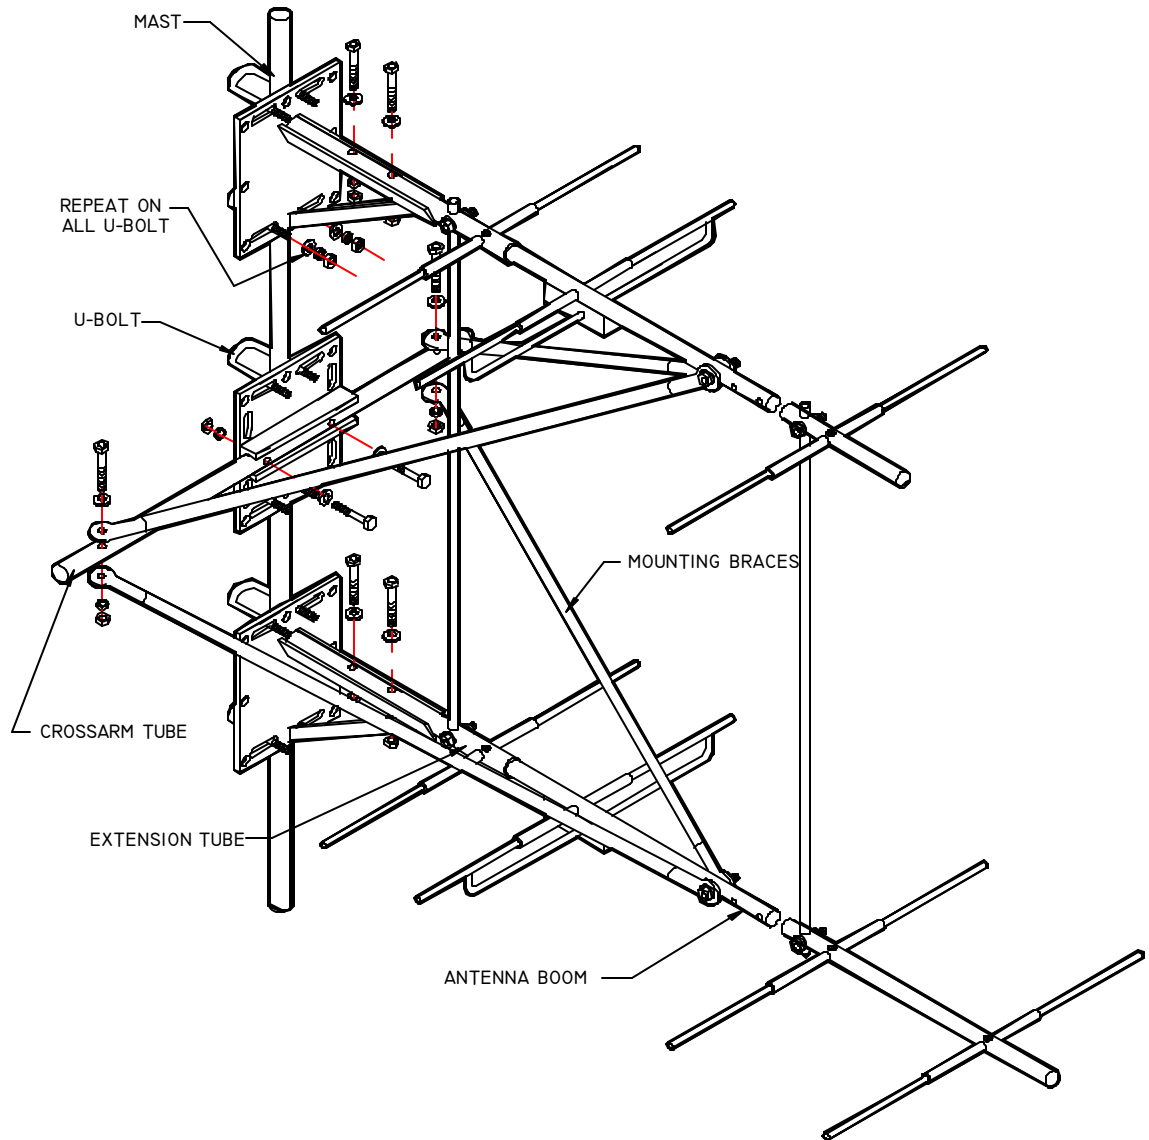

Figure 5
- c. Secure the crossarm tube to the flat plate. Attach the bent end of antenna brace to the crossarm tube. See Figure 5.
- d. Connect the antenna at the end mount boom extension to the angle plates using provided hardware. See Figure 5.
- e. Attach flat plate with installed crossarm tube to the mast / tower leg using the supplied U-bolts. Also, connect the antenna boom angle plates to the mast / tower leg using the supplied U-bolt. See Figure 5.